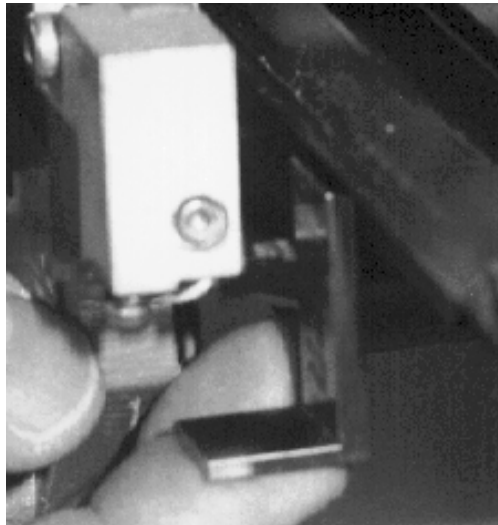

Figure 6-4 Tray Sensor
1. Push the tray fully into the mini VIDAS until it stops. Place the long end of the sensor/tray alignment tool (P/N 371114-1) between the Tray Sensor tip and side of the tray. Adjust the Tray Sensor (see figure 6-4) to obtain the proper the gap (.125 inch). Verify the sensor is mounted with the collector side (green - white wires) toward the back of the mini VIDAS